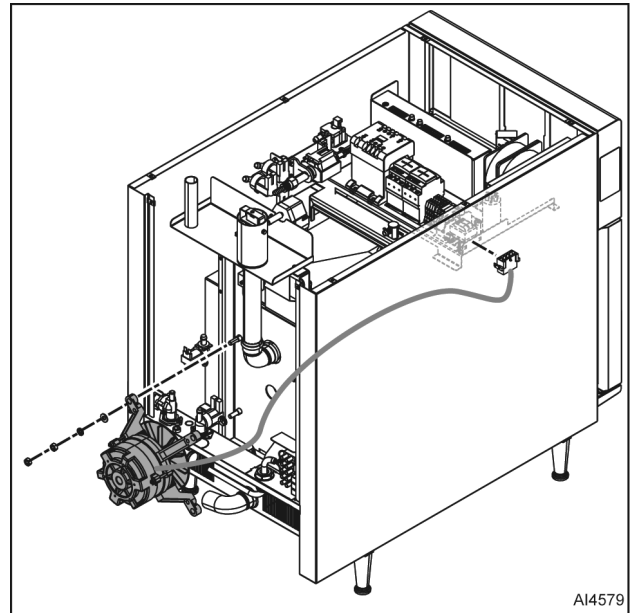

Fig. 24
- Disconnect connector from motor harness connector (Fig. 24).